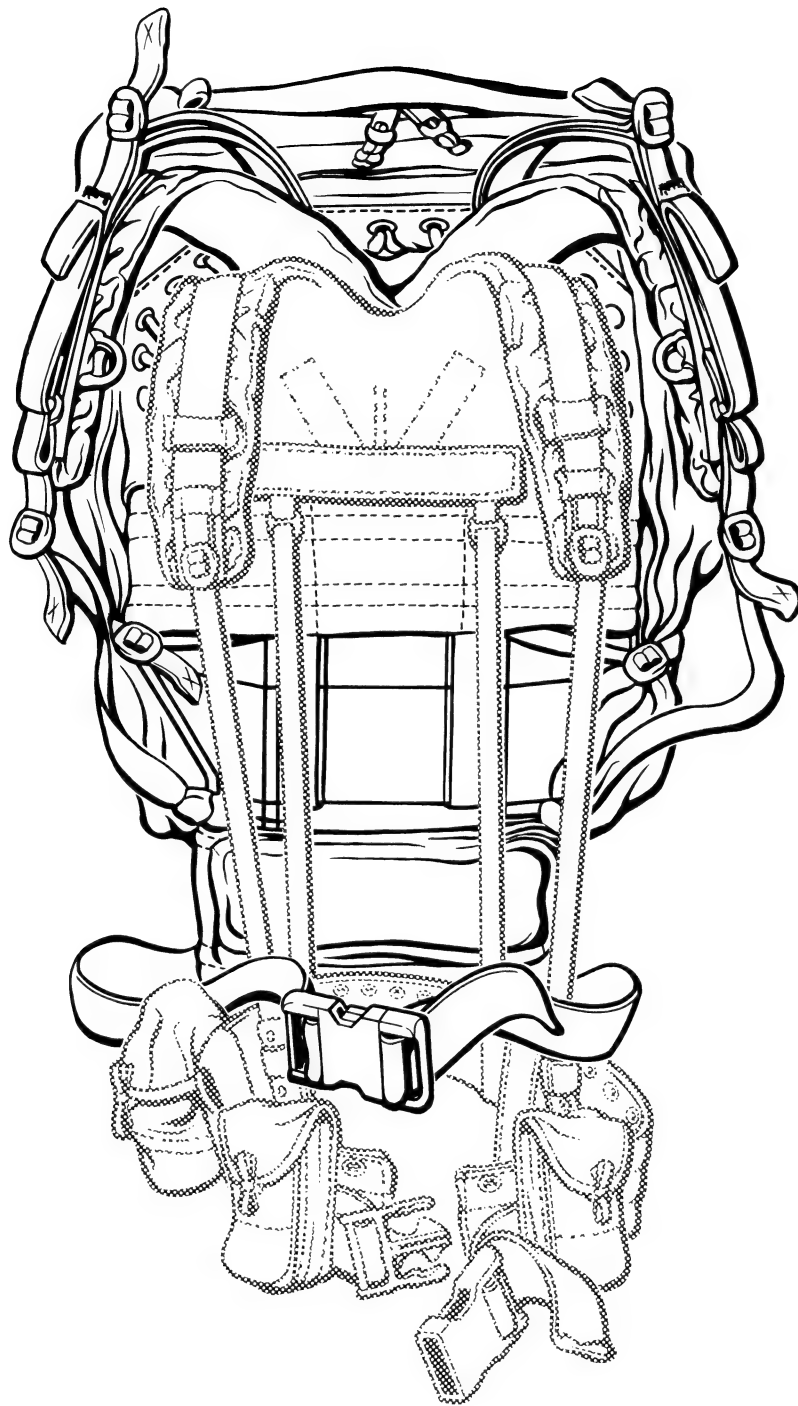

Figure 4-4 Marching Order
4. Refer to Figure 4-4 for details.